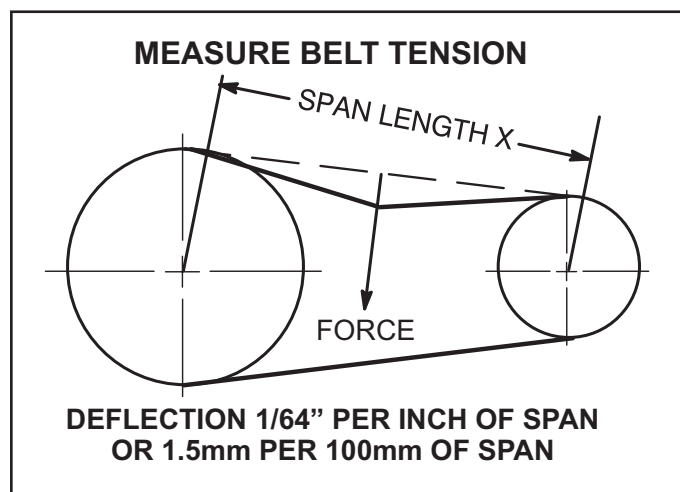

FIGURE 23
- 1 - Measure span length X. See FIGURE 23.
- 2 - Apply perpendicular force to center of span (X) with enough pressure to deflect belt $1/64$ " for every inch of span length or 1.5mm per 100mm of span length.